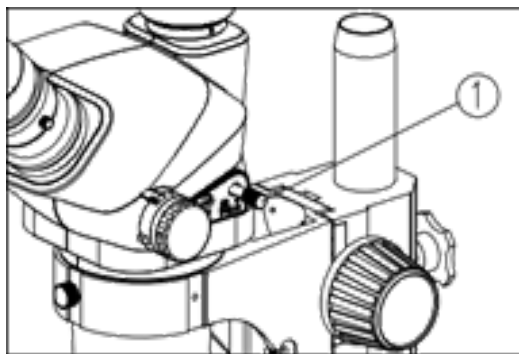

Fig.7
5. When the light path selection lever (1) is pushed in, all the light will enter the binocular head, which can be used for binocular observation. (See Fig. 7)